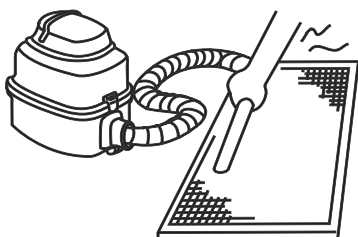

Figure 6-8
- a. The air inlet side should face upwards if you are using a vacuum cleaner. (see Fig. 6-8).